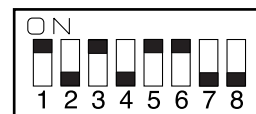

Figure 5-213
- 2) Set the DIP switch (SW1) as shown in Figure 5-213.